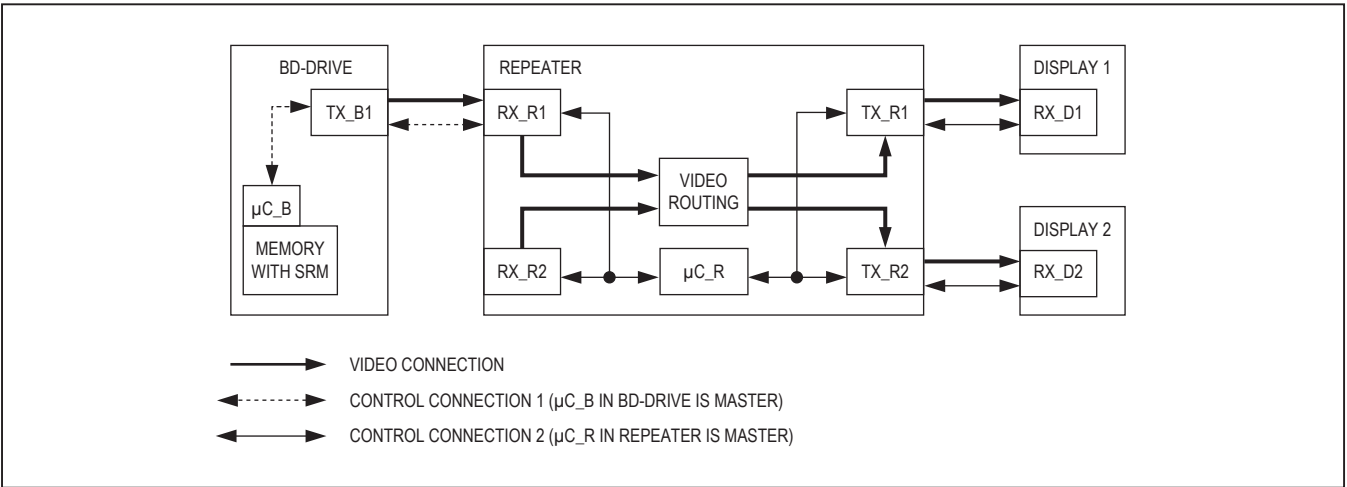

Figure 58. Example Network with One Repeater and Two  $\mu$ Cs (Tx = GMSL Serializer's, Rx = Deserializer's)
**Table 16. Startup Procedure for Image-Sensing Applications (CDS = High, Figure 58)**
The example shown in Figure 58 has one repeater and two  $\mu$ Cs. Table 20 summarizes the authentication operation.